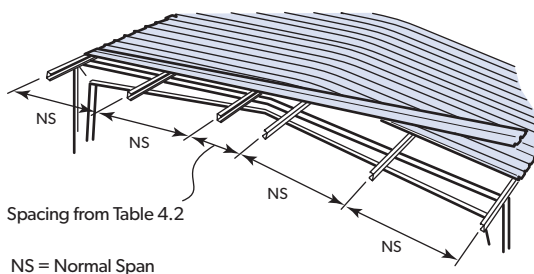

Figure 4.1.6:
** For Transverse Convex walling applications ENSEAM® and SNAPSEAM™ ribs should be pop riveted as per Figure 4.1.6 at max 500mm c/c